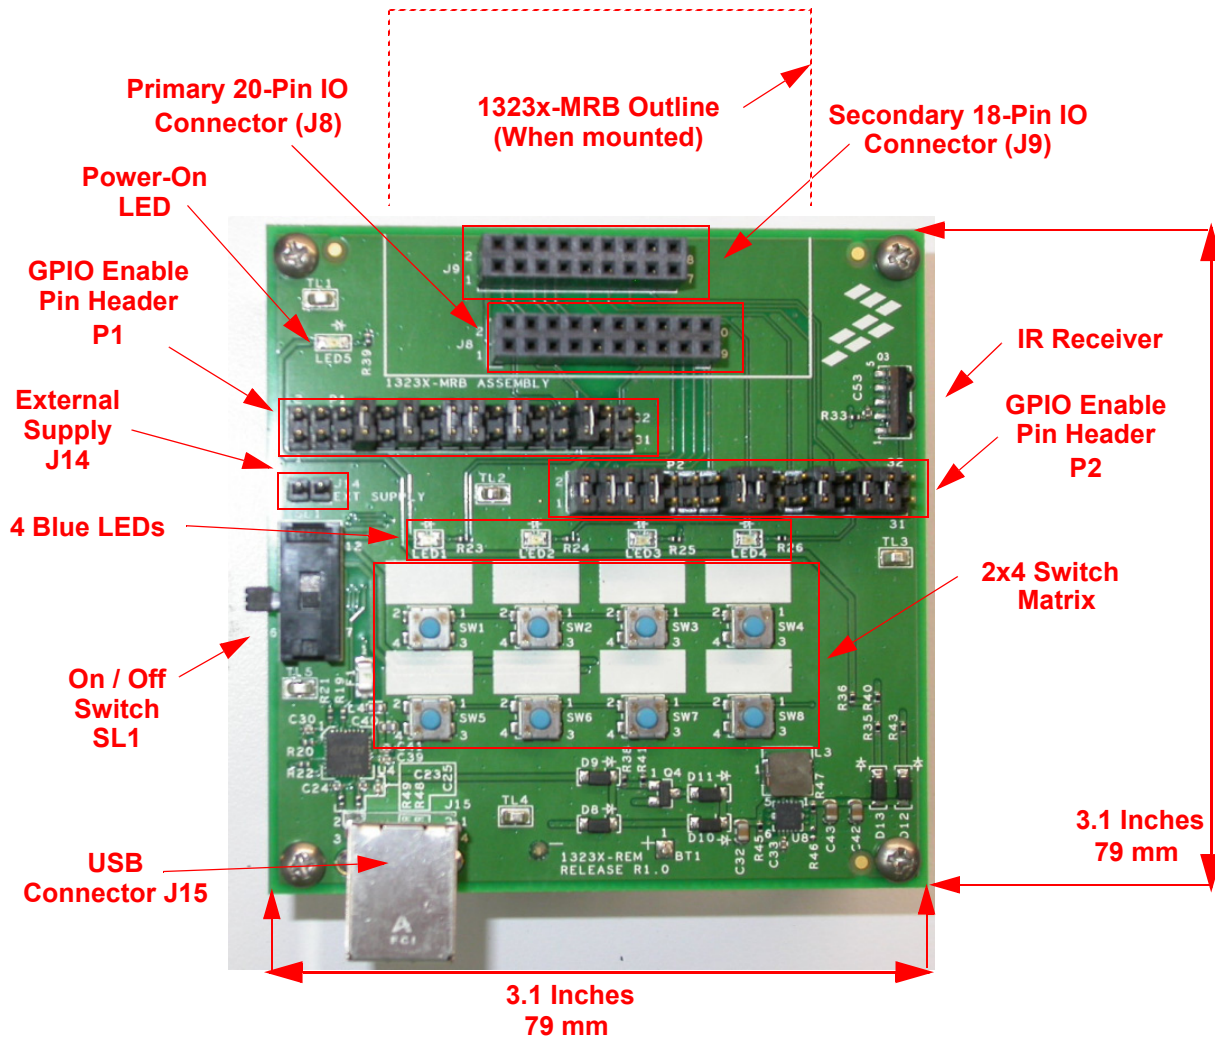
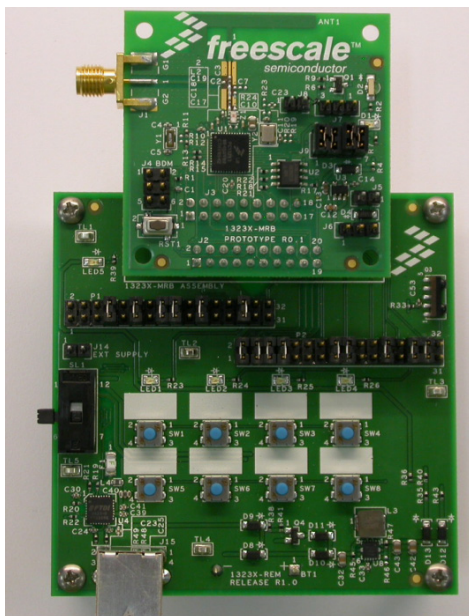

Figure 5-1. 1323x-REM
Figure 5-4. 1323x-MRB Mounted on 1323x-REM
Figure 5-1 shows a photo of the 1323x-REM showing the locations of connectors and headers.
The 1323x-MRB mounts on the 1323x-REM via receptacles J8 and J9. Figure 5-1 shows an outline of the 1323x-MRB placement when mounted.
- Figure 5-1 for location of connectors and features
IO Connectors J8 and J9 (see Figure 5-1) are receptacles that accept the 1323x-MRB pin headers to mount the daughtercard. Figure 5-4 shows the 1323x-REM with the 1323x-MRB mounted. Receptacles J8 and J9 connect to the MC13233 GPIO.